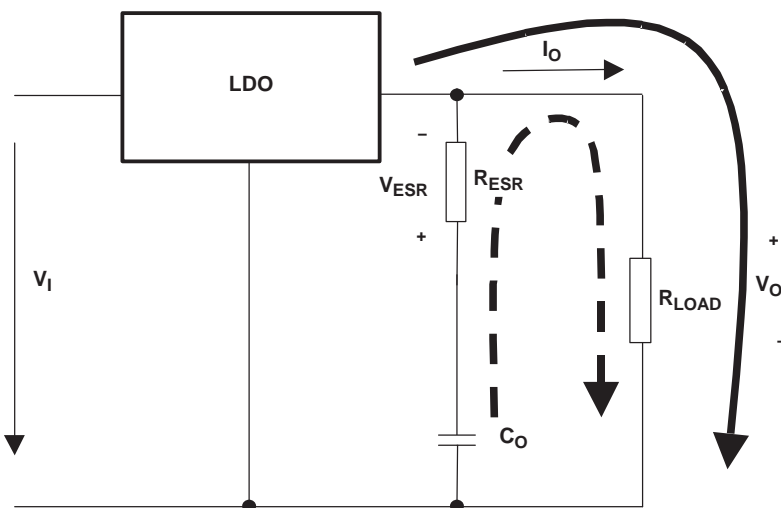
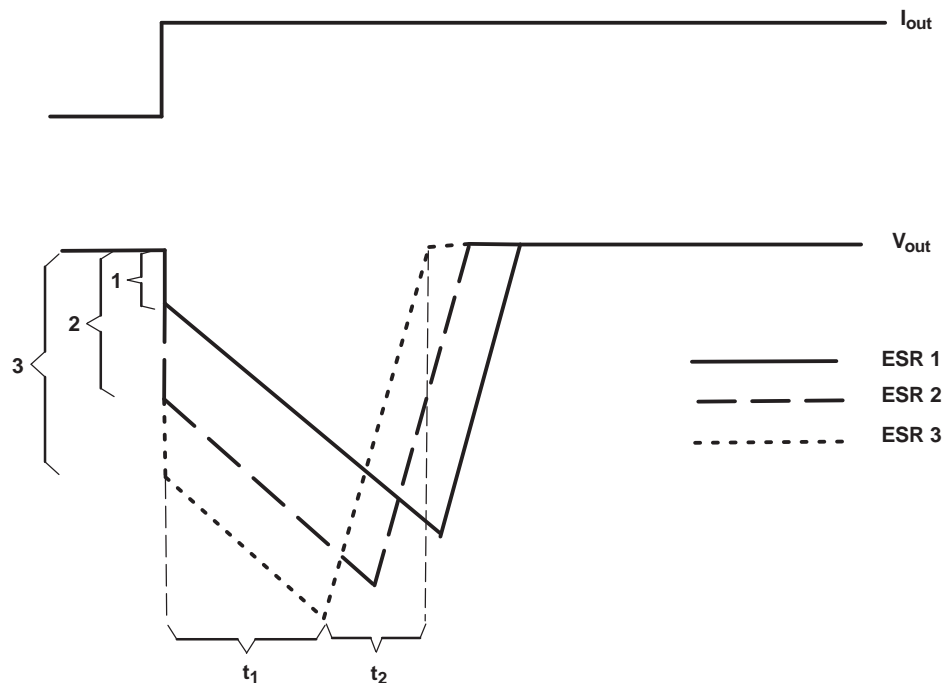

Figure 22. LDO Output Stage With Parasitic Resistances ESR
Figure 23. Correlation of Different ESRs and Their Influence to the Regulation of V_{out} at a Load Step From Low-to-High Output Current
Figure 22 shows the output capacitor and its parasitic impedances in a typical LDO output stage.
- The LDO is not able to supply the sudden current need due to its response time (t_1 in Figure 23). Therefore, capacitor C_{out} provides the current for the new load condition (dashed arrow). C_{out} now acts like a battery with an internal resistance, ESR. Depending on the current demand at the output, a voltage drop will occur at R_{ESR} . This voltage is shown as V_{ESR} in Figure 22.
- When C_{out} is conducting current to the load, initial voltage at the load is $V_{out} = V_{Cout} - V_{ESR}$. Due to the discharge of C_{out} , the output voltage V_{out} drops continuously until the response time t_1 of the LDO is reached and the LDO resumes supplying the load. From this point, the output voltage starts rising again until it reaches the regulated voltage. This period is shown as t_2 in Figure 23.